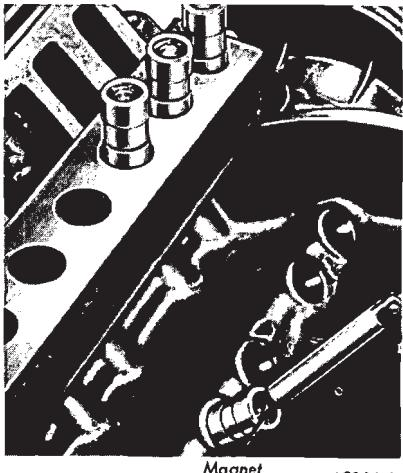

FIG. 41—Removing Valve Lifter
6. Using a magnet, remove the valve lifters and place them in a rack so that they can be installed in their original bores (Fig. 41).
5. Using a magnet, remove the valve lifters and place them in a rack so that they can be installed in their original bores (Fig. 41).